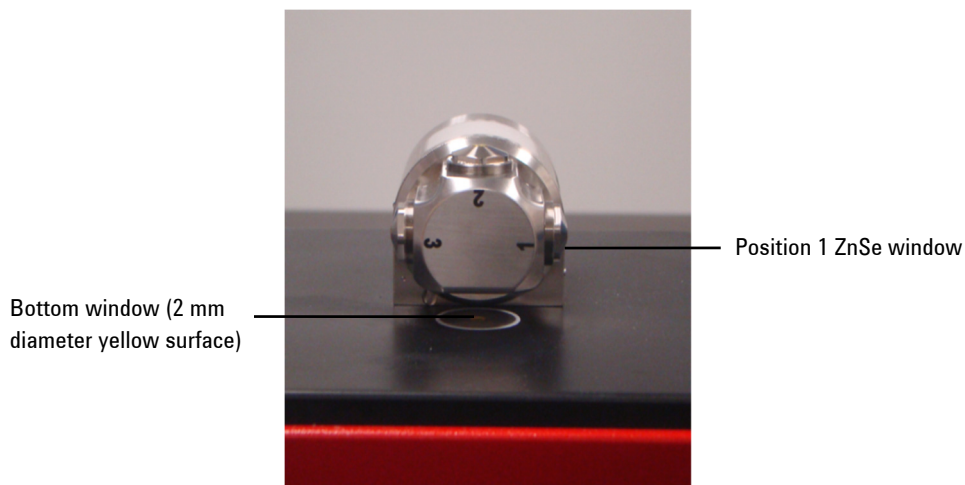

Figure 10. DialPath with accessory window facing up
In the sample loading and cleaning mode, the DialPath is rotated so the accessory window is facing up (see Figure 10). It is in this position that the sample mounting area can be easily accessed for loading the sample into place and cleaning the sampling surfaces before the next sample is analyzed.
Rotate the DialPath so that optical sensor #2 is pointing upward. Clean the window of the position used first, then clean the bottom window, indicated in Figure 10. If using Position 2, you will find it necessary to clean either Position 3 or 1, depending on the direction the DialPath was rotated in.
- 1 Open the sampling device (DialPath) by rotating the arm (see Figure 10).